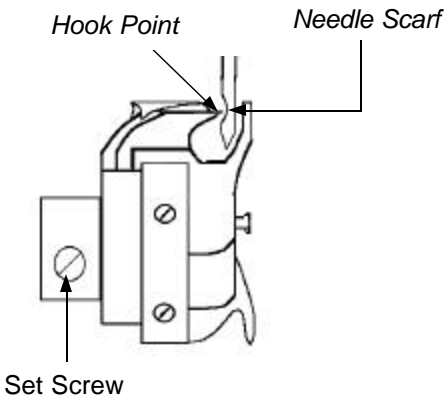

Figure 3
- Using a 3mm hex key (allen wrench), loosen top and bottom hex socket bolts on Needle Bar Driver Fixing Base. See figure 3
7. Before making any adjustments, check hook timing. Hook Point should cross behind needle in middle of scarf of needle and approximately 1-2 threadwidths away from needle. See Figure 3